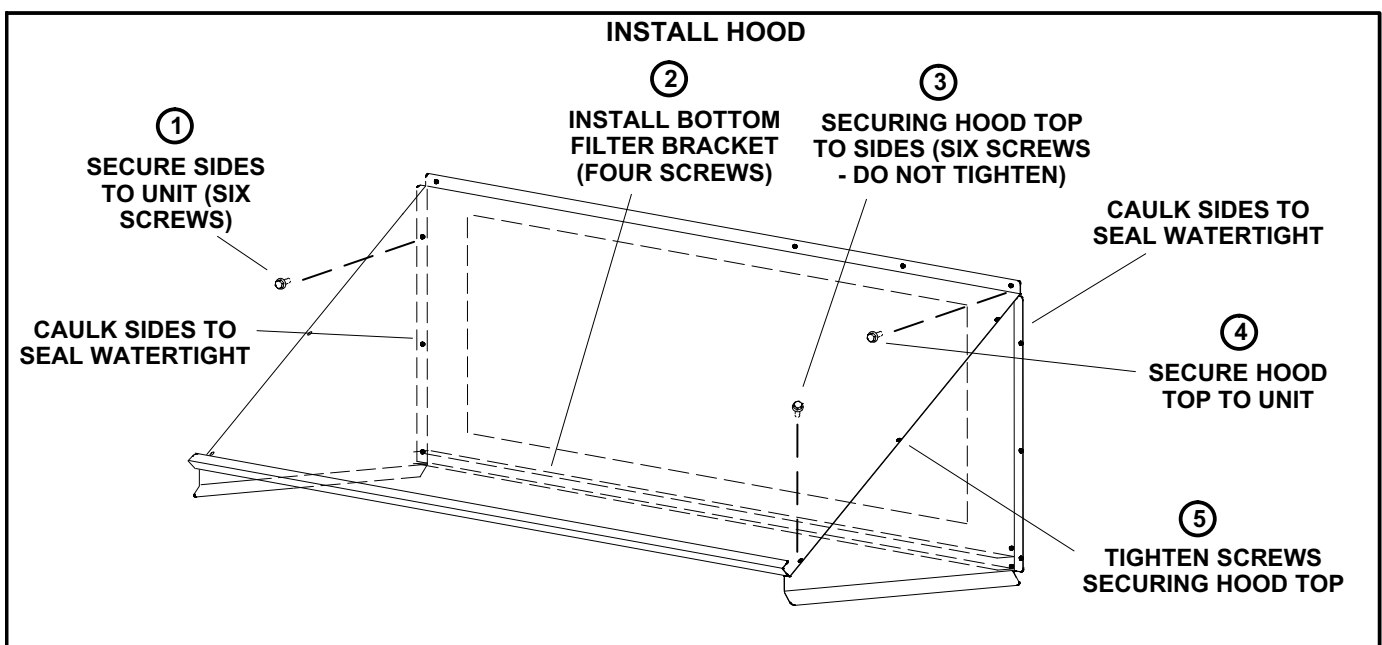

FIGURE 10
- 1- Use the locating dimples to install the right hood side onto the unit. Install the left side in the same manner. See figure 10.
- 2- Install the bottom filter bracket between the left and right hood sides. Secure in place with #10 screws. See figure 10 and 11.
- 4- Align holes in the top flange of the hood top with the locating dimples provided on the unit. Secure with #10 self-drilling screws. See figure 10.